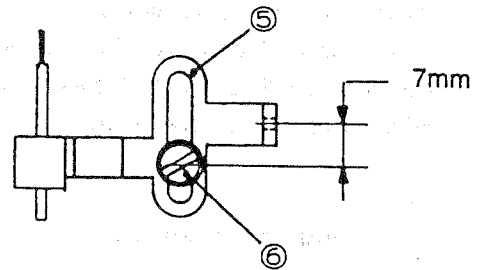

Fig.26
(2) Needle thread guides (Fig. 26)